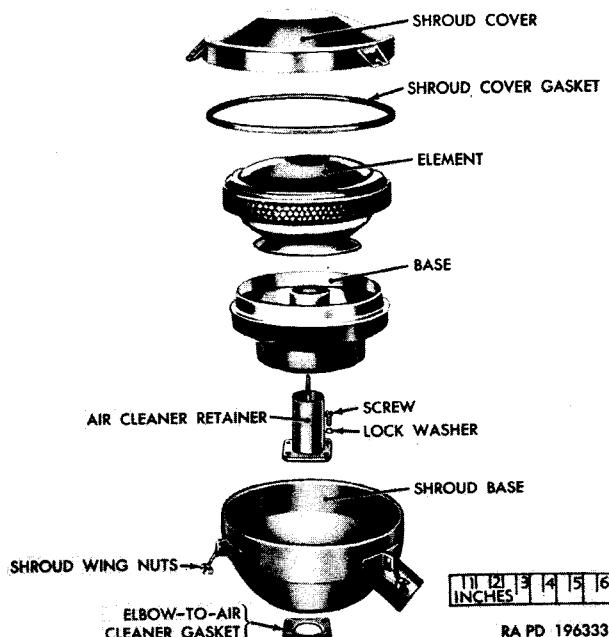

Figure 100. Carburetor air cleaner with shroud—exploded view.
a. *Description.* The carburetor air cleaner is an oil bath-type with a replaceable element (fig. 100). Its purpose is to remove dirt and other foreign matter from the air before it enters the carburetor. The air cleaner shroud provided on vehicles of early manufacturers was discontinued on later vehicles (par. 6). Maintenance of both types of air cleaner is described in this section.
- (1) On air cleaners equipped with a shroud, loosen the three shroud wing nuts attaching the shroud cover to the shroud base. Disengage the eye bolts from the retainer brackets and remove the shroud cover with gasket.
- (2) Loosen the wing nut on top of the air cleaner element and remove the reservoir and element as a unit.
- (3) Lift the element from the reservoir.
- (4) Remove the oil from the reservoir and clean both the element and the reservoir with volatile mineral spirits or dry-cleaning solvent and dry with compressed air.
- (5) Install the reservoir on the air cleaner retainer.
- (1) Install a new elbow-to-air cleaner gasket (fig. 100) on the air cleaner elbow, alining the screw holes.
- (2) On vehicles so equipped, position the shroud base on the gasket with the snorkel extension toward the right fender.
- (3) Position the air cleaner retainer in the shroud base or on the elbow-to-air cleaner gasket, alining screw holes. Install four $\frac{5}{16}$ -inch external-teeth lockwashers and $\frac{5}{16}$ -18NC x $\frac{3}{4}$ fillister-head screws. Tighten screws.
- (4) Install the air cleaner reservoir, element, and shroud cover (b(7) and (8) above).